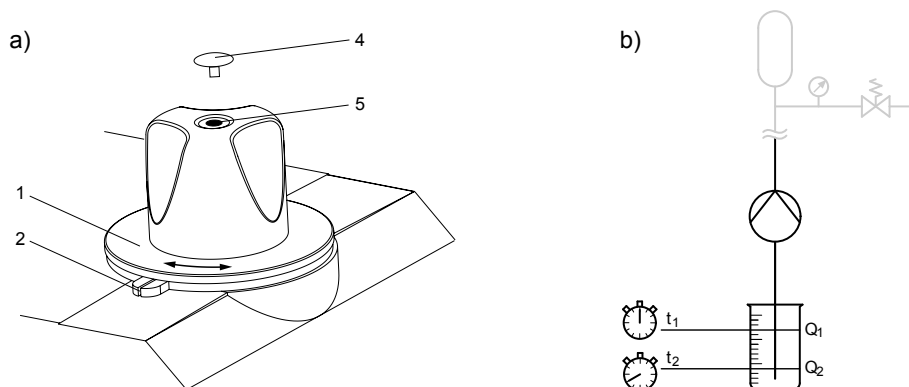

Fig. 22: a) Adjust indicating dial, b) Schematic assembly for calibration
4. ➤ Remove the cap (4) from the stroke adjustment dial and slacken off the screw (3) beneath slightly.
5. ➤ Guide the suction line into the measuring beaker - see Fig. 22.
- 13.** ▶ Turn the indicating dial (1) only until the 100% marking is precisely above the indicating slit (2).
- 14.** ▶ Carefully tighten the screw (3) in the stroke adjustment dial and replace the cap (4).